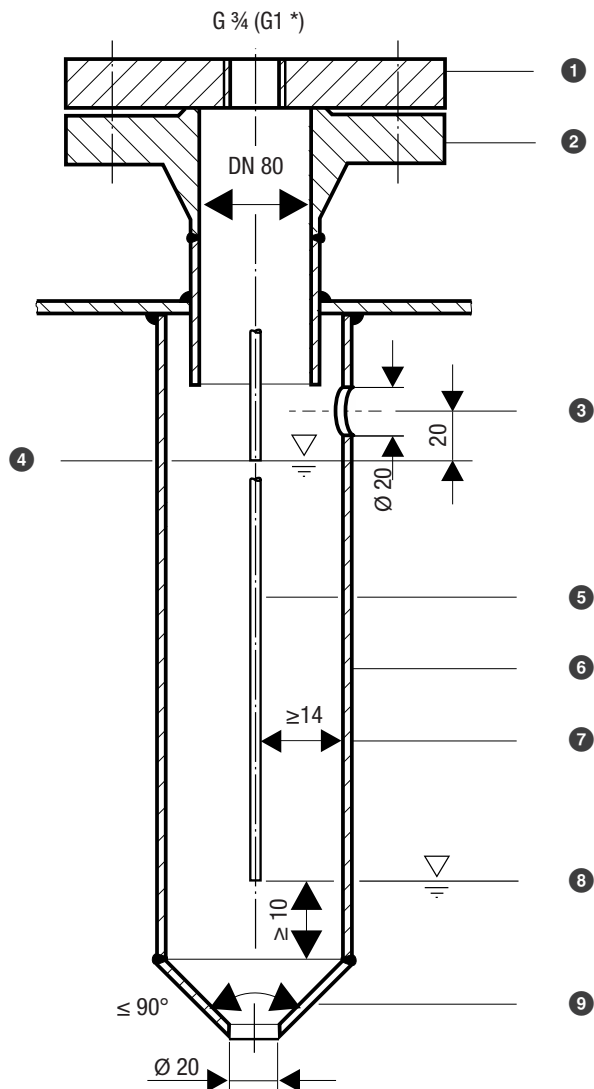
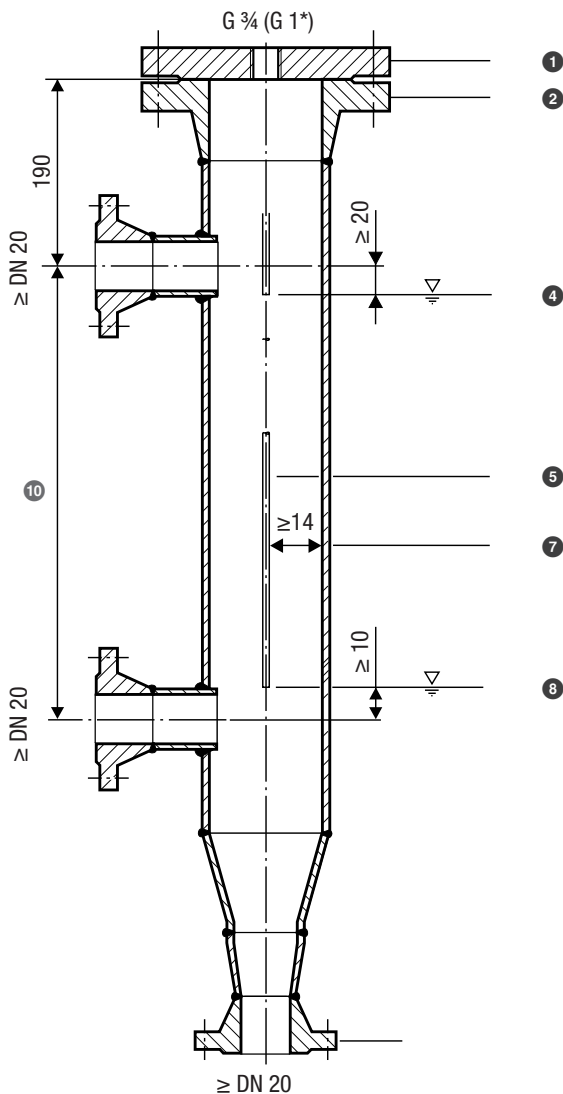

Fig. 14
Fig. 17
- Pay attention to the minimum clearances when installing the level electrode, see installation examples Fig. 14 to Fig. 17.
Installation example with dimensions, see Fig. 14, page 31
Key Fig. 14 to Fig. 17
- ① Fig. 14: Flange (PN 40, 63, 160, 320) EN 1092-1
- Fig. 17: Flange (PN 40, 63, 60, 320) EN 1092-1
- ② Standpipe
- ③ Pressure relief hole (locate as close to boiler wall as possible!)
- ④ High water (HW)
- ⑤ Electrode rod, $d = 8 \text{ mm}$
- ⑥ Fig. 14 (single electrode): Protective tube DN 80
- ⑦ Electrode spacing $\geq 14 \text{ mm}$ (air gaps and creepage paths)
- ⑧ Low water (LW)
- ⑨ Fig. 14 (single electrode): Reducer DIN 2616-2
- ⑩ Fig. 17: Centre distance of standpipe